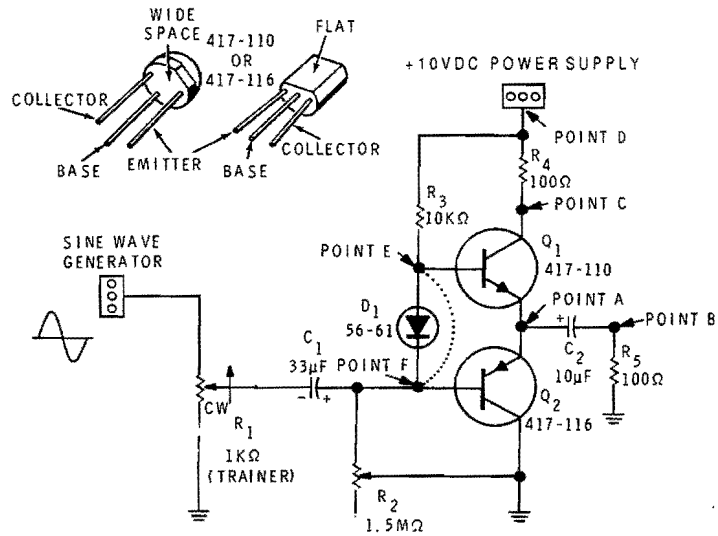

Figure 2-36
- Construct the circuit shown in Figure 2-36. Place a jumper wire across diode  $D_1$  where the dotted line indicates. Be sure control  $R_1$  is wired so that clockwise rotation results in maximum signal output.
- Turn on the Trainer. Rotate control  $R_1$  fully counterclockwise (CCW). Connect the positive lead of your multimeter to point A and the negative lead to ground (refer to Figure 2-36). Adjust control  $R_2$  for a meter reading of +5 VDC.
The circuit in Figure 2-36 is a basic complementary power amplifier.  $R_4$  was added to provide a means to measure the collector to emitter current flowing through each transistor. It is usually not found in this type of circuit.